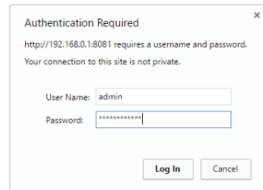

Figure 18: xPicoWiFi Login Dialog Box
6. A dialog box will appear. Type “admin” in lower case in the User Name box and the full MAC/Serial # without dashes (e.g. 0080A3AB01C8) in the Password box. Click on Log In button. See Figure 18.